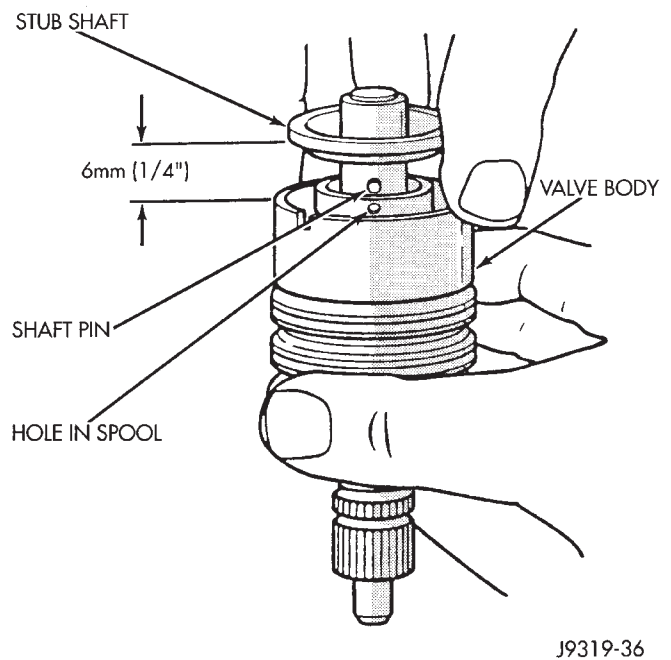

Fig. 26 Remove and Install Stub Shaft
- (3) Remove stub shaft from valve assembly, if necessary.
- Pull cap and valve body and disengage stub shaft pin from hole in valve body (Fig. 26).
- (4) Remove valve assembly if necessary.